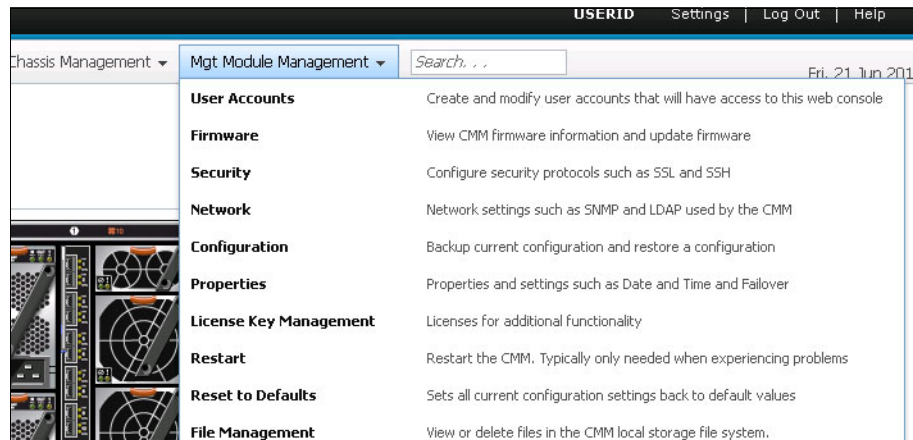

Figure 7-14 Management Module management options
- ▶ Management Module management, as shown in Figure 7-14